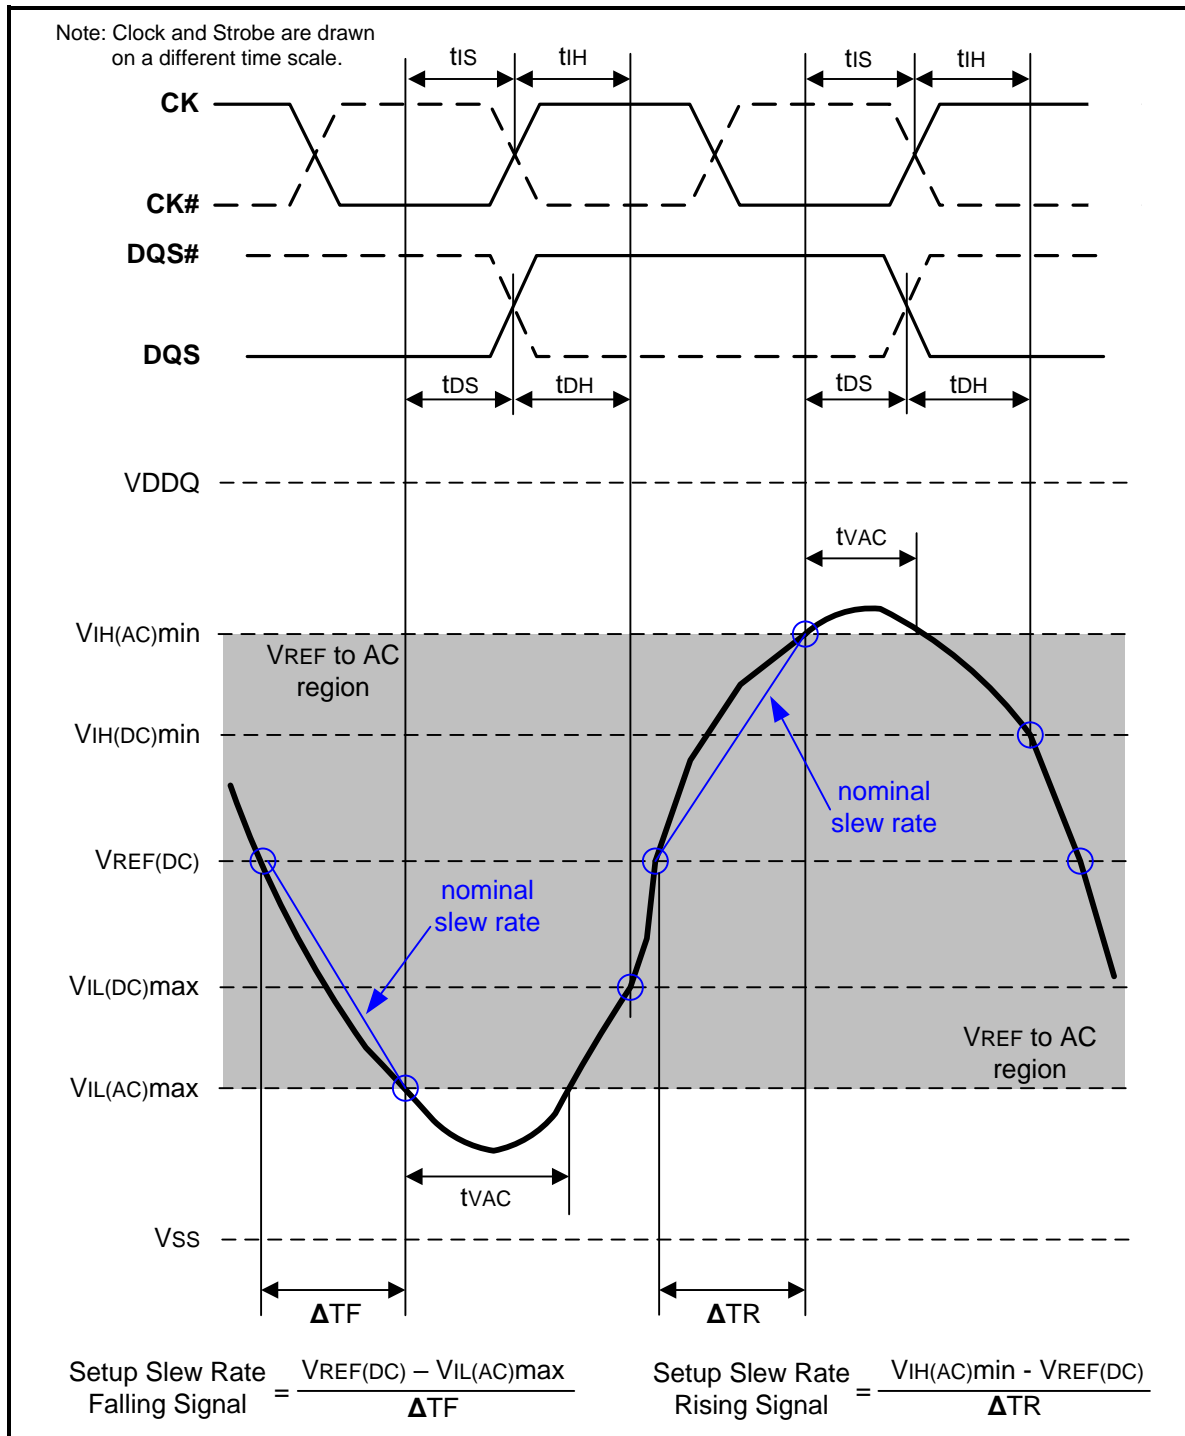
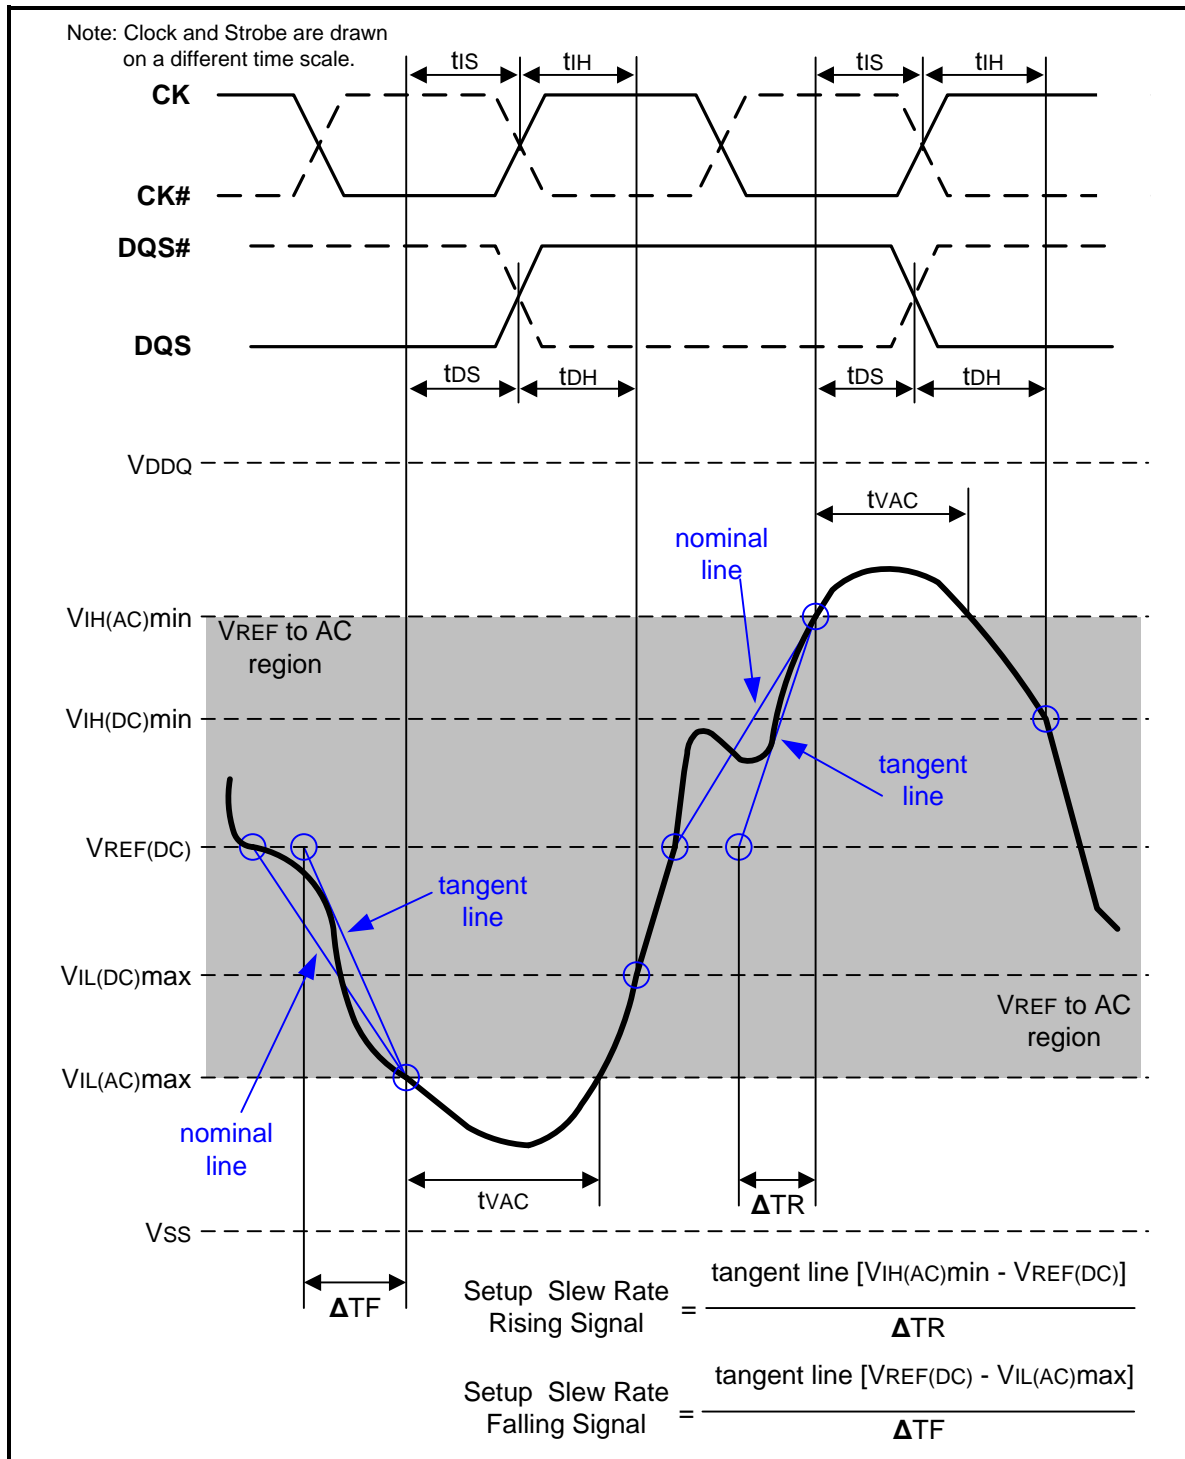

Figure 107 – Illustration of nominal slew rate and tvac for setup time tDS (for DQ with respect to strobe) and tIS (for ADD/CMD with respect to clock)
Figure 109 – Illustration of tangent line for setup time  $t_{DS}$  (for DQ with respect to strobe) and  $t_{IS}$  (for ADD/CMD with respect to clock)
Setup (tDS) nominal slew rate for a rising signal is defined as the slew rate between the last crossing of VREF(DC) and the first crossing of VIH(AC)min. Setup (tDS) nominal slew rate for a falling signal is defined as the slew rate between the last crossing of VREF(DC) and the first crossing of VIL(AC)max (see Figure 107). If the actual signal is always earlier than the nominal slew rate line between shaded 'VREF(DC) to AC region', use nominal slew rate for derating value. If the actual signal is later than the nominal slew rate line anywhere between shaded 'VREF(DC) to AC region', the slew rate of a tangent line to the actual signal from the AC level to VREF(DC) level is used for derating value (see Figure 109).